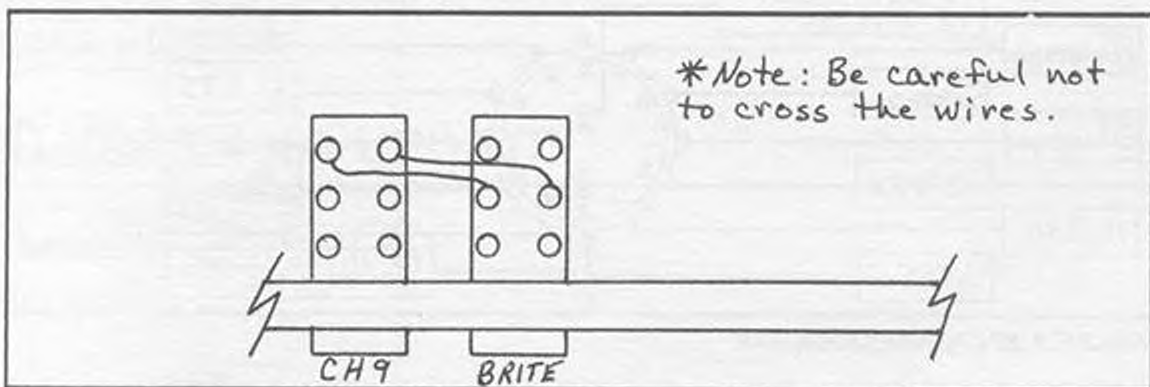

FIGURE 3. AR44/25GTL
9. REFER TO FIGURE 3. SOLDER TWO 'SHORT' WIRES FROM THE END POST OF THE CHANNEL 9 SWITCH TO THE TWO CENTER POSTS OF THE OF THE BRITE/DIM SWITCH.